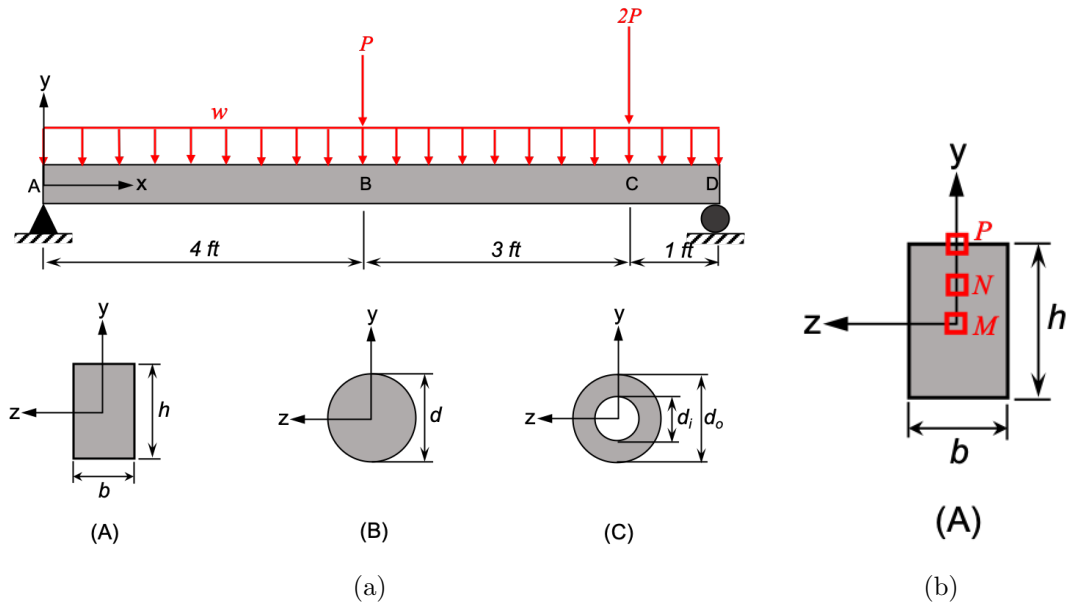

Figure 5
5. A wood beam is supported and loaded as shown in Fig. 5. The weight w of the beam is to be considered, using $\gamma = 50 \text{ lb/ft}^3$ for the specific weight of the wood. The maximum shear stress in any cross-section (along the y -direction) must not exceed $\tau_{\text{allow}} = 160 \text{ psi}$.
- (a) Calculate the maximum allowable value of the loading P for the solid rectangular cross-section (A), with dimensions $b = 2.5 \text{ in}$ and $h = 6 \text{ in}$.
- (b) Calculate the maximum allowable value of the loading P for the solid circular cross-section (B), with diameter $d = 6 \text{ in}$.
- (c) Calculate the maximum allowable value of the loading P for the hollow circular cross-section (C), with outer diameter $d_o = 6$ in and inner diameter $d_i = 3$ in.
- (d) Show the state of stress at three places (M, N, P) on the cross-section (A) as shown in Fig. 5(b). The co-ordinates for these points are: